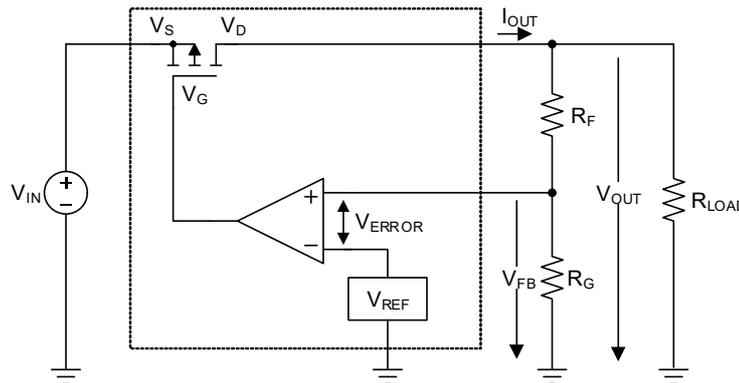

Figure 33. Simple PMOS LDO Regulator Block Diagram
Like the majority of LDOs with a PMOS pass transistor, the RAA214290 DC output voltage (V_{OUT}) regulation can be modeled with a voltage reference (V_{REF}), PMOS pass-transistor, error amplifier, and feedback (FB) resistors, as shown in Figure 33.